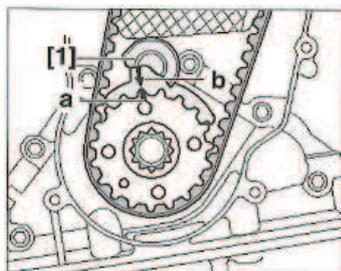

FIG. 1
- Specific tool to lock the crankshaft (FIG. 1) [1].
- ① The next step is to drain the coolant circuit and turn the crankshaft until cylinder nº1 is positioned at TDC.
- ② Place the specific tool (FIG. 1) [1] coinciding the reference marks a and b. Then, turn the crankshaft until the specific tool shaft is placed on the engine block housing.